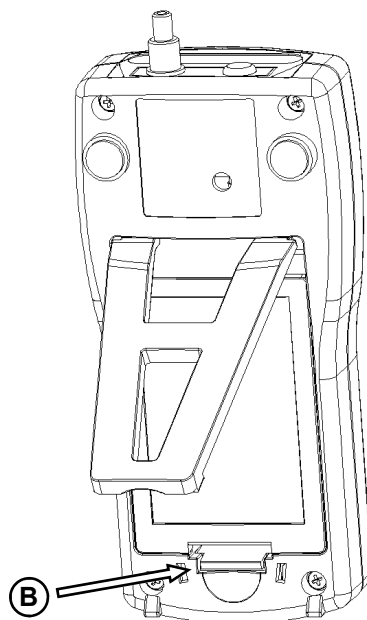

Fig. 2: Battery compartment access.
- Install the supplied batteries in the battery compartment, carefully matching polarity. Lightly press the plastic lever inwards to remove the battery compartment cover (B in Fig. 2).